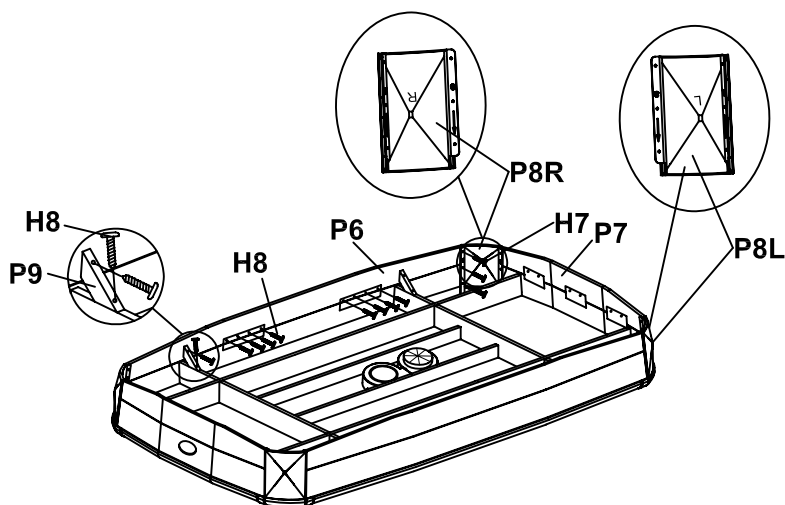

Figure 5
- 5: Attach the relevant corner posts **P8R** & **P8L** to the corners using screws **H7** as shown in **FIGURE 5**.
- 6: Attach the lower side panels **P6** and the lower end panels **P7** using screws **H8**, as shown in **FIGURE 5**. Make sure the edges of the lower and upper aprons are flush with each other. Next attach the support brackets **P9** between the lower panels and the frame using screws **H8** as shown in **FIGURE 5**.